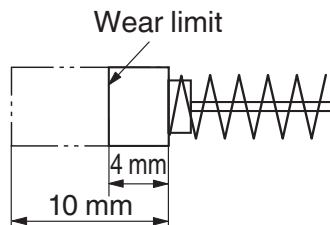

Fig. 27
3. Inspecting the carbon brushes (**Fig. 27**)